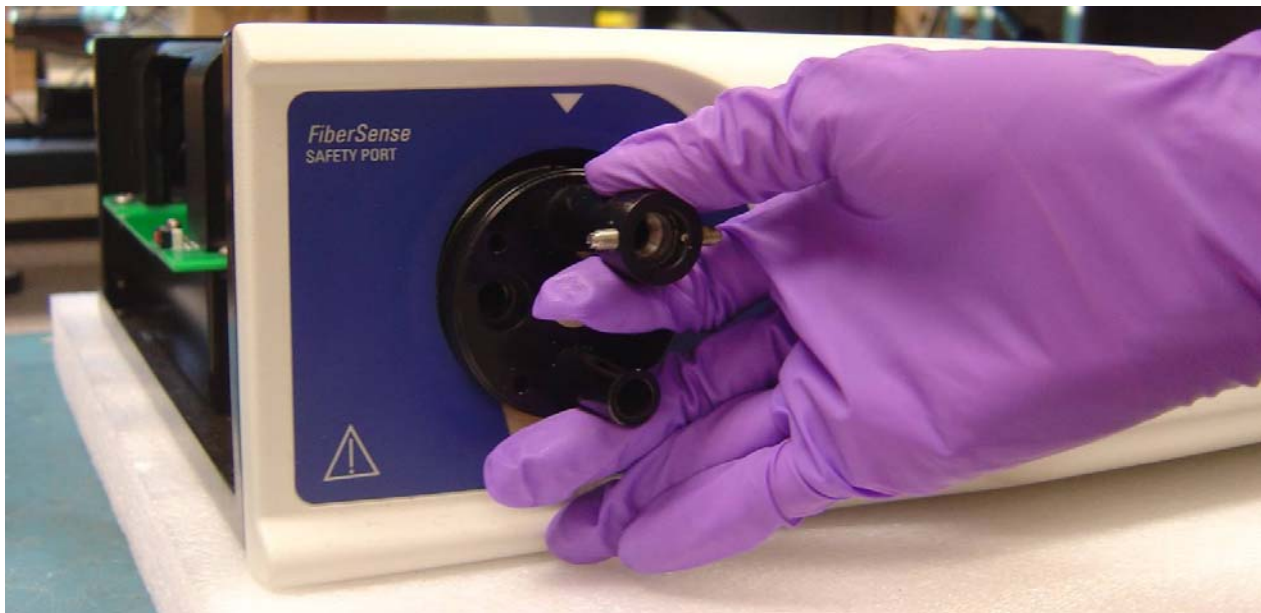

Figure 12
- 2 Pull the turret disk away from the unit – Figure 12.